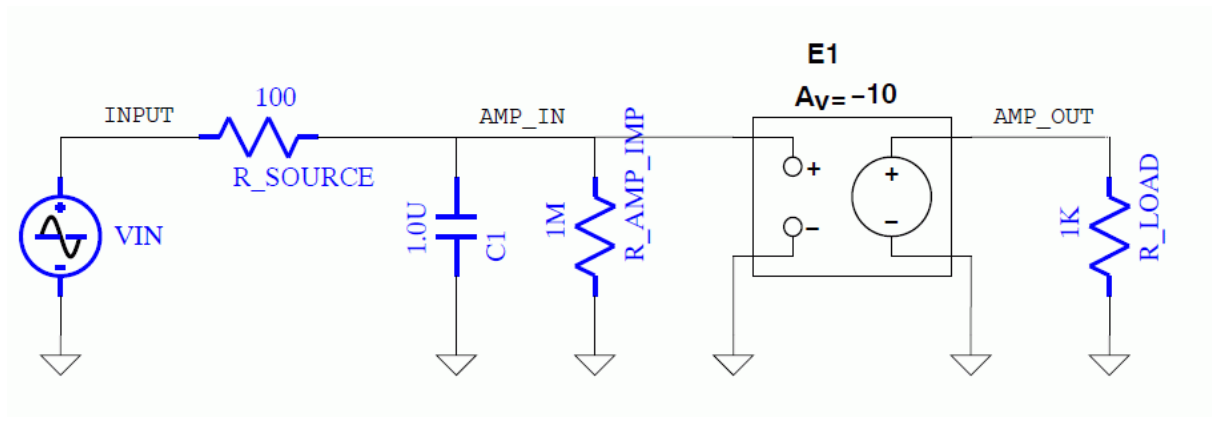

Figure 26.1: Example Circuit 1
alphanumeric identifiers to each circuit node, the assignment of component identifiers to each circuit device, and the definition of the significant parameters for each device. For example, the circuit description below shows the equivalent input file for the circuit shown in Fig. 26.1.
**Subcircuits** In some applications, describing a device by embedding the required elements in the main circuit file, as is done for the amplifier in Fig. 26.1, is not desirable. A hierarchical approach may be taken by using subcircuits. An example of a subcircuit statement is shown in the second circuit file: